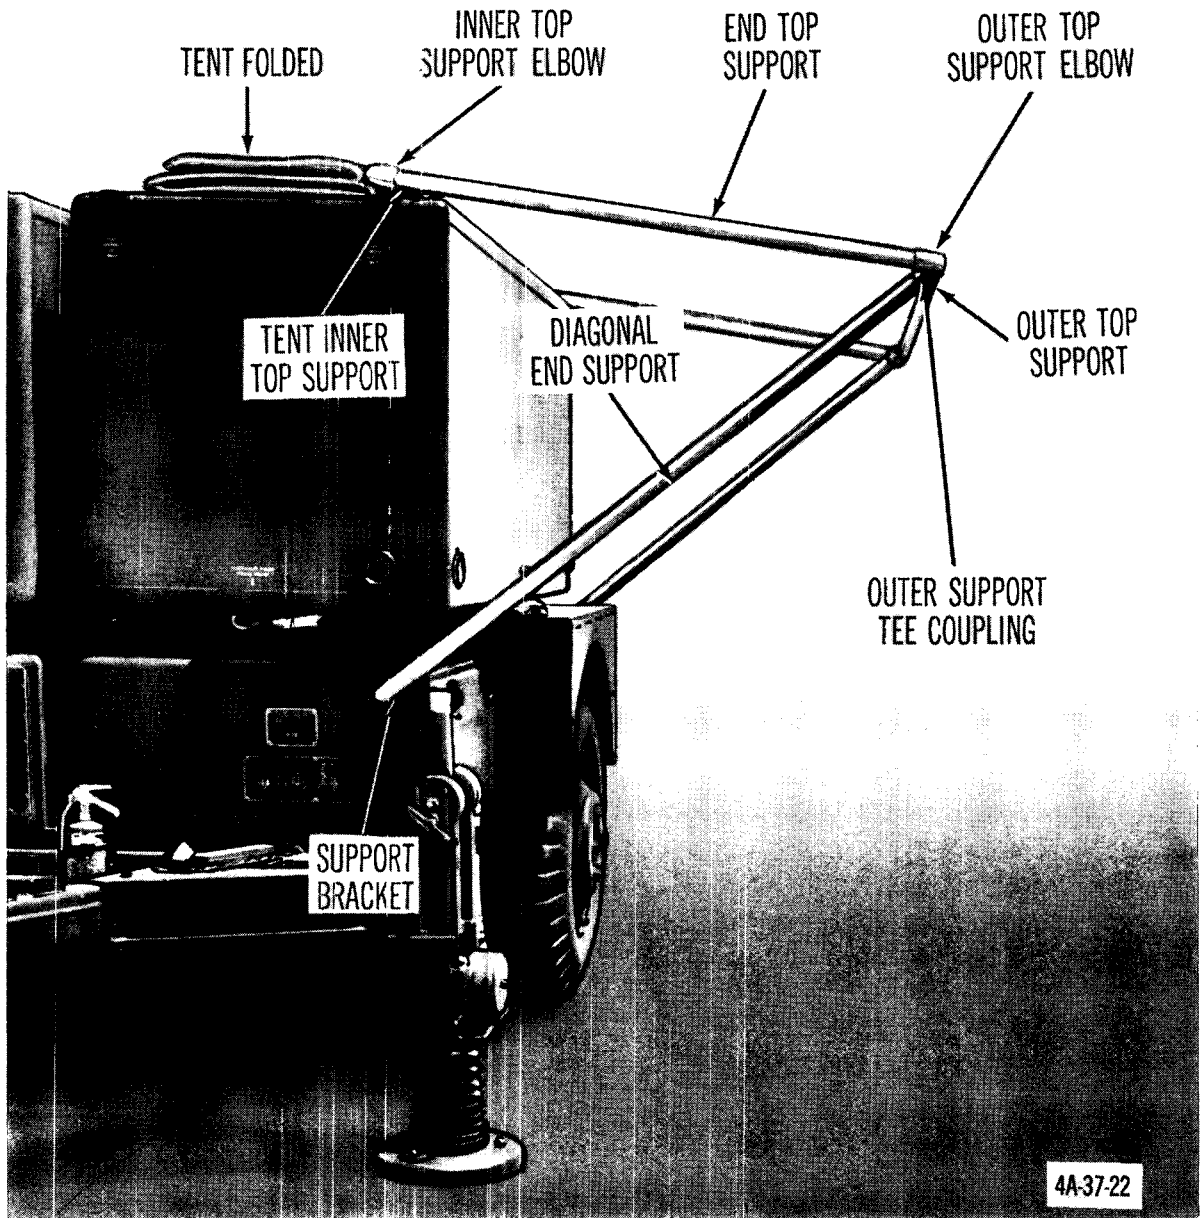

Figure 87. Attaching frame of tent, maintenance, missile test shop, to missile test shop cabinet.
- (1) *Attaching frame to missile test shop cabinet* (fig. 87).
- (2) *Attaching tent to frame.*
- (3) *Securing tent to the ground.*